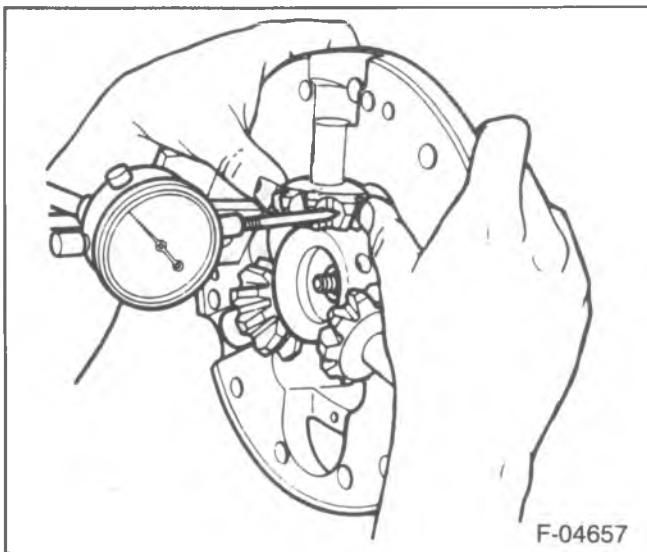

Figure 204—Measuring Backlash
6. Mount a dial indicator on the case half face using a magnetic base (figure 204).
8. Mount a dial indicator on the case half face using a magnetic base (figure 204).